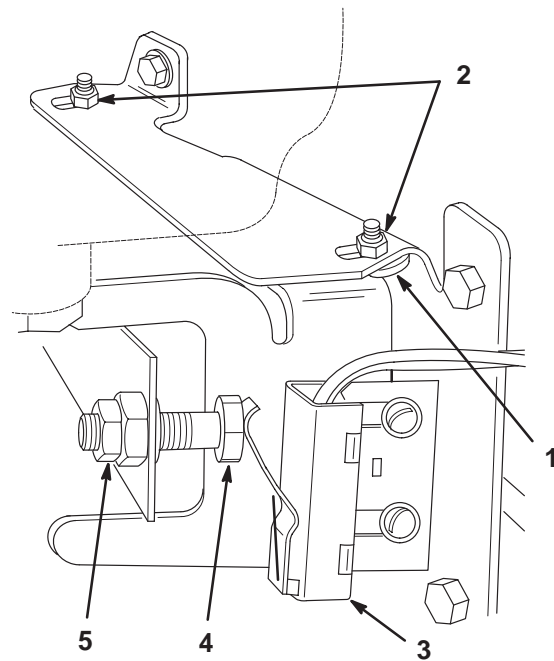

Figure 55
2. Start the engine, move the throttle to SLOW, and check the front wheel that is off of shop floor; it must not be rotating. Loosen the pump plate nuts and rotate pump plate (Fig. 55) until creep does not occur in either direction. When the wheel stops rotating, tighten the nuts to lock the adjustment. Verify the adjustment with the throttle in the SLOW and FAST position.